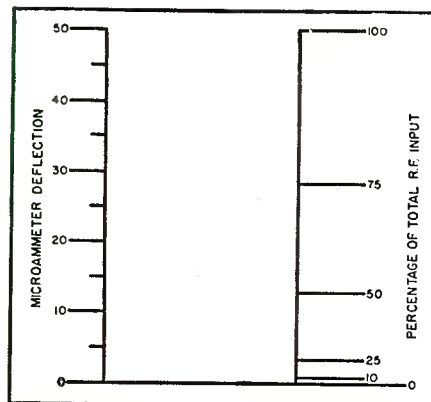

Fig. 4. Ideal square-law meter response.
Fig. 4. Equalization characteristics associated with disc recording and playback. (A) Recording equalization for velocity-sensitive cutter head. (B) Playback (solid line) equalization for use with velocity-sensitive pickup and discs cut to the characteristic of (A). The dotted line is for a disc recorded at constant amplitude which would require this equalization for playback with velocity-sensitive pickup. (C) Playback equalization required for standard discs used with amplitude-sensitive pickup. This curve is the difference between solid and dotted lines of (B).
The two most effective methods of controlling the gain of a transistor amplifier are to vary either the emitter current or the collector voltage. Fig. 4 illustrates the variation in gain that can be achieved by varying emitter current ( $I_e$ ) or collector voltage ( $V_c$ )1. Now, to provide this control, a certain
scale, and so on. Fig. 4 gives a comparison between the microammeter scale and ideal square-law response. Another important fact is that the rectification efficiency of the crystal decreases as the frequency increases. The actual amount varies with individual diodes. This results in a somewhat lower meter deflection for a given r.f. input at high frequencies, and for highest accuracy would necessitate applying a correction factor.